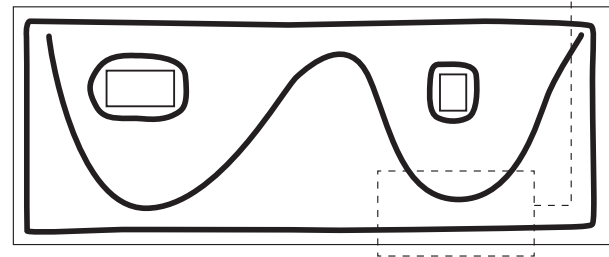

Figure C-2
- Then run a bead in an “S” pattern, within the inside area. Any cut-outs (e.g., electrical sockets) require a continuous bead of adhesive 25 mm in from the cut-out. See Figure C-2.